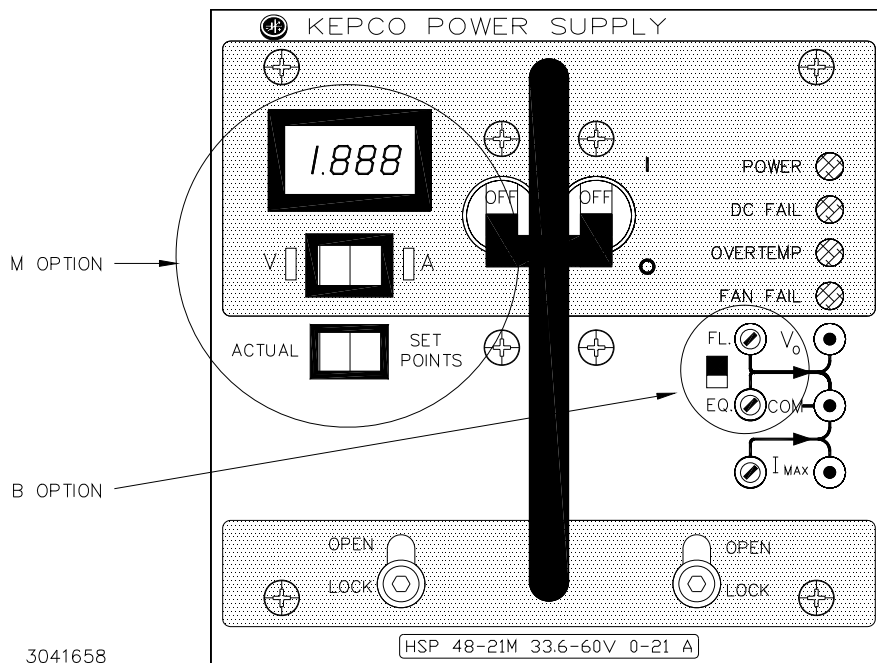

FIGURE 3-7. HSP M (METER) OPTION AND B (BATTERY CHARGER) OPTION, FRONT PANEL
HSP series power supplies are available with a meter option ('M' suffix) which incorporates a 3½ digit LED meter display on the front panel. The meter provides both voltmeter and ammeter functions. The V-A rocker switch directly below the meter (Figure 3-7) selects either output voltage (V) or module current (A) as the normally-displayed parameter. The associated LED, either V or A, lights to show the selected switch position. When depressed, the ACTUAL/SETPOINTS momentary-contact switch located below the V-A selector switch causes the meter to display the programmed value of output voltage or current limit, as selected by the V-A switch. The opera-
When the Float-Equalize switch is set to FL (see Figure 3-7), the Float potentiometer adjusts the output voltage; when set to EQ, the Equalize potentiometer adjusts the output voltage. The FL-EQ position also determines which voltage is available at test point V_o. CAUTION: Adjusting the non-selected potentiometer (e.g., FL potentiometer with switch set to EQ) can have adverse effects, because an unknown output voltage will be applied to the load when the switch position is changed. The fault detector window is altered to accommodate the normal range of battery voltage from fully discharged to peak equalize charge as shown in Table 3-3.: